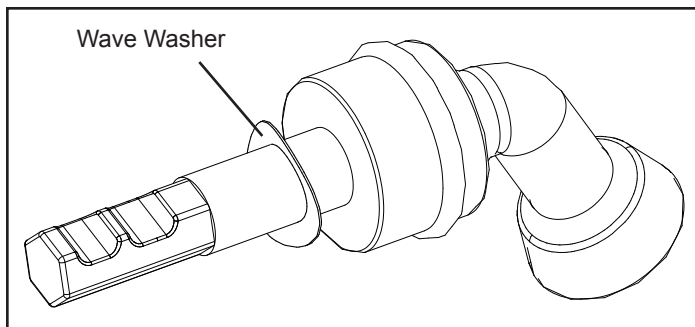

Figure 1
3. Slide wave washer(s) onto handle shaft. One for the small door, or two for the large door, Figure 1.